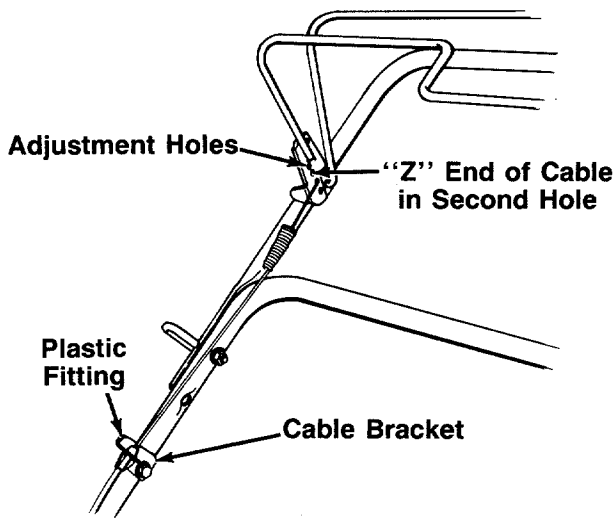

FIGURE 7.
1. The drive clutch control cable is attached to the drive cover, and has a spring on one end. Route the clutch cable inside the handle mount bracket and above the lower handle. Hook the spring on the end of the cable into the **second hole from the bottom** on the drive clutch control handle. See figure 7.